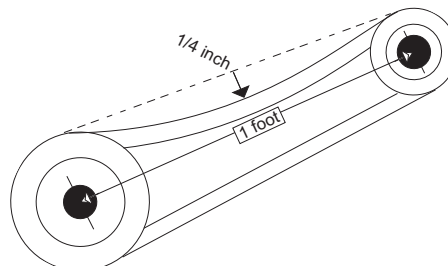

Figure 1
- Slide the motor plate back until proper tension is reached. For proper tension a deflection of approximately 1/4" per foot of center distance should be obtained by firmly pressing the belt. Refer to Figure 1.